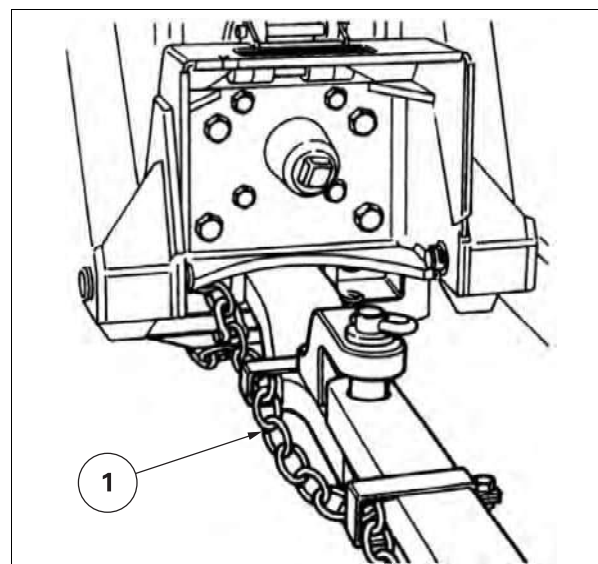

Fig. 10.
- All trailed implements and trailers should be connected to the tractor by a safety chain (1) fig. 10.